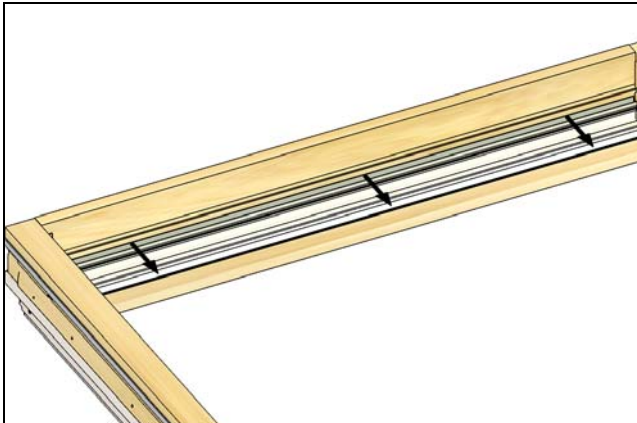

Figure 14
2. Lay frames to be mullled on a flat sturdy surface in the desired mulling configuration, interior side up. Remove head jamb parting stop. See Figure 14.